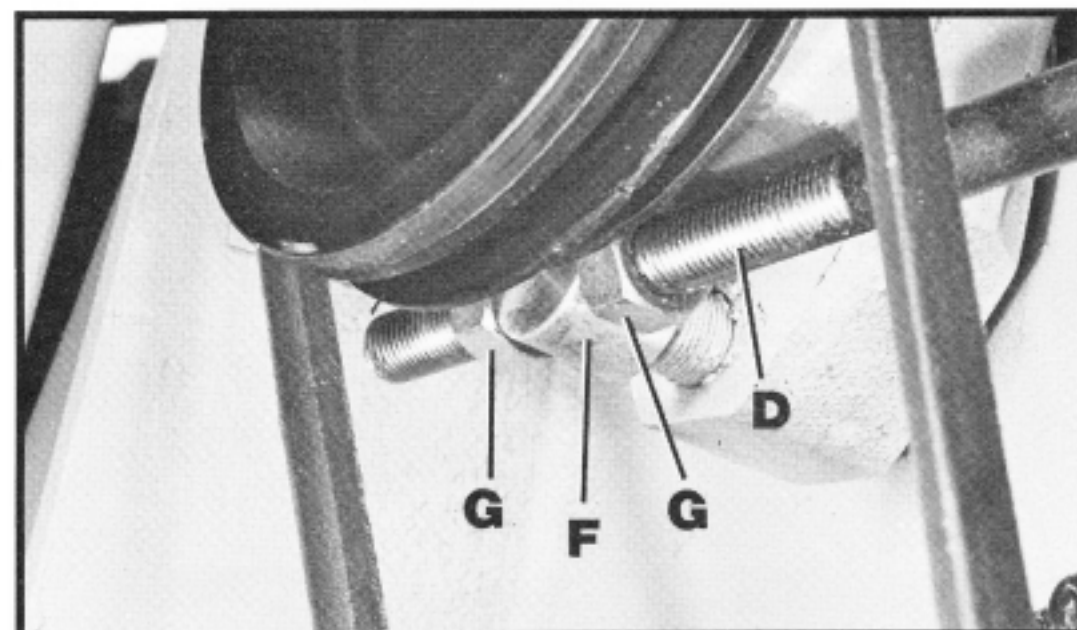

Fig. 20
2. Change position of rod (D) Fig. 20, in stud (F) by tightening and loosening two nuts (G) until correct belt tension is obtained. Both hex nuts (G) should be tight against stud (F) as shown in Fig. 20, after adjustment is made.